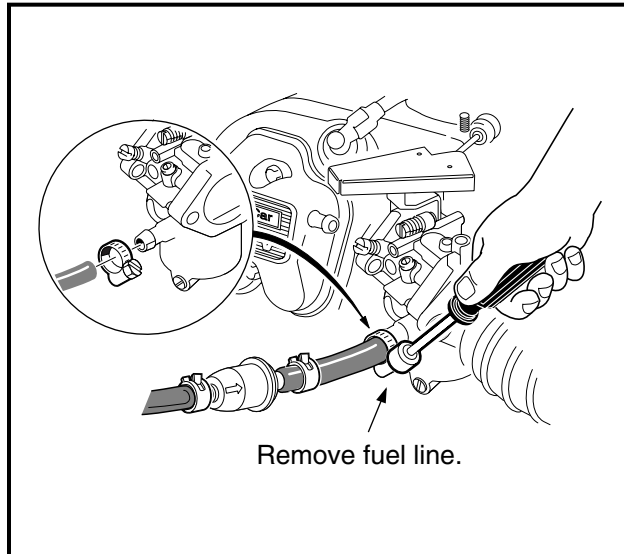

Figure 16-14 Fuel Line
- 4.4. Disconnect the fuel line from the carburetor (**Figure 16-14, Page 16-9**). Temporarily push the disconnected end of the line onto the impulse line fitting of the fuel pump.